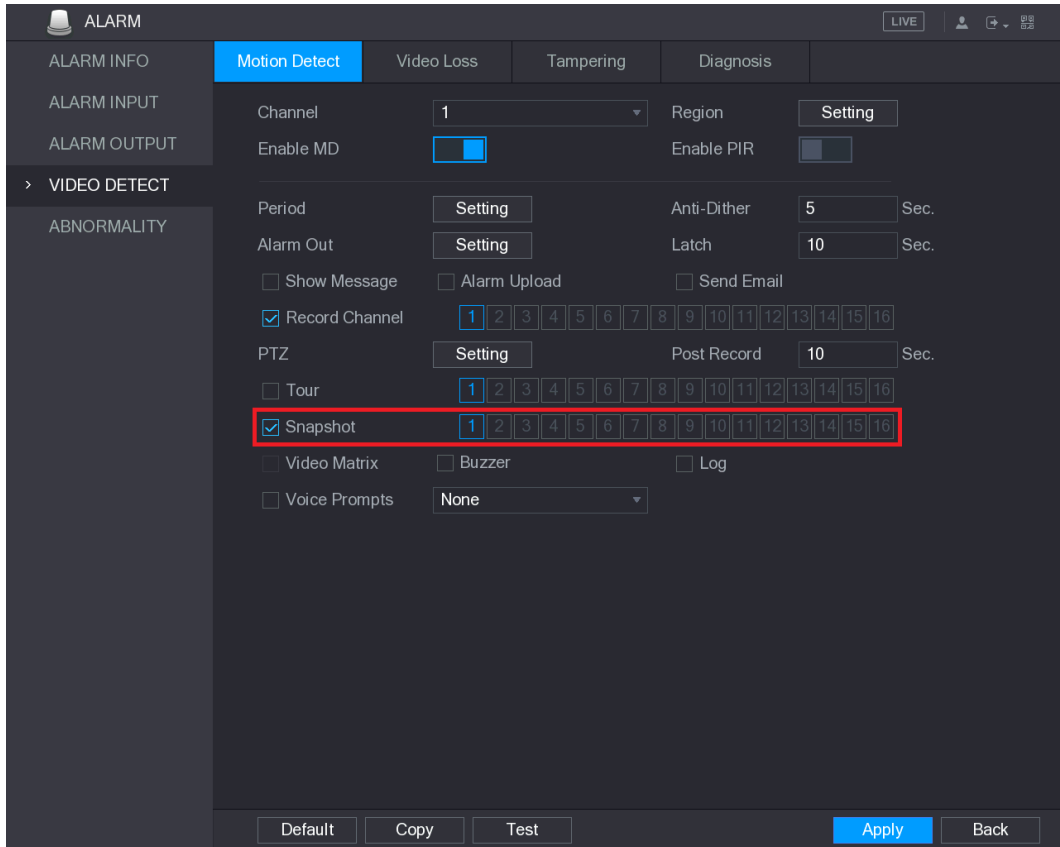

Figure 5-94
**Step 3** Select **Main Menu > ALARM > VIDEO DETECT**, and select the event type to configure, for example, select the **Motion Detect** tab. See Figure 5-94.